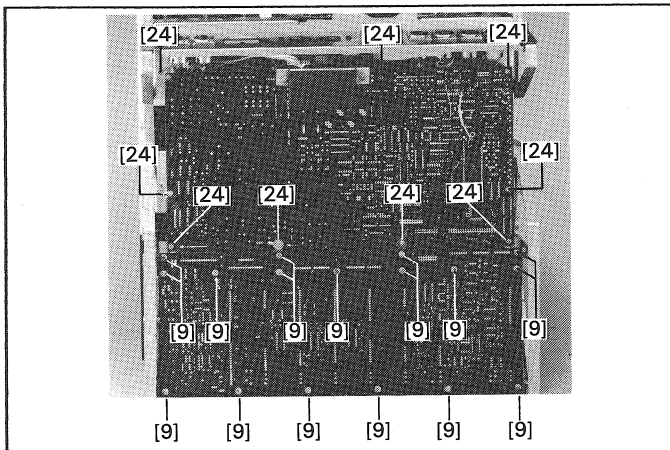

Fig. 11
- Unfasten 17 screws [9] on the AUDIO BASE BOARD (see Fig. 11).